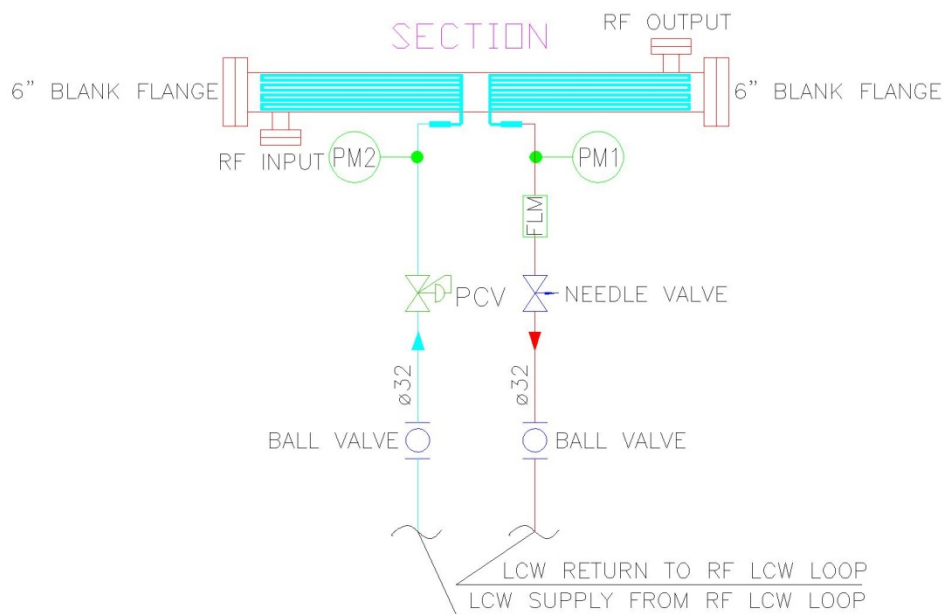

Figure 2. Flow Test Schematic
- Assembly the test system as the Flow Test Schematic shown in the Figure 2;